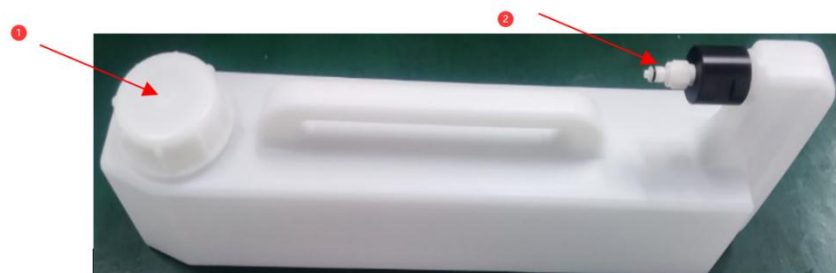

Figure 12.10: Large container
❶ For waste liquid, take out the container from the large container rack, open the container cover (1 in Figure 12.10), and treat the waste liquid according to the method of your laboratory.
❶ For large reagents, open the container cover and fill the reagent as needed after taking the container out of the large container rack.
- For the waste liquid containers, take out the container from the large tank, open the container cover (1 in Figure 12.10), and treat the waste liquid according to the method
- For large reagents, open the container cover (1 in Figure 12.10) and fill the reagent as needed after taking the container out of the rack.
④ Routine cleaning of large reagent container can be done with an industrial grade detergent and rinse with deionized water.
④ Clean the reagent container monthly and wash with bleach or industrial strong detergent, and then rinse well with deionized water.